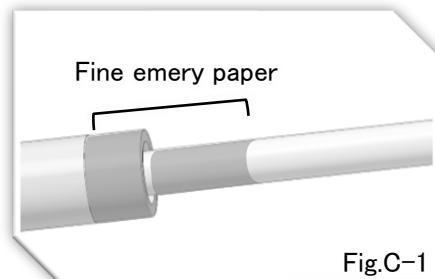

Fig.C-1
2. Clean surface in installation area of the shaft and stern tube with fine emery paper (#200 or #400) to remove any debris or rough edges. Then, make sure there are no dents, scratches any defects on surface that could cause leaks. (See Fig.C-1)